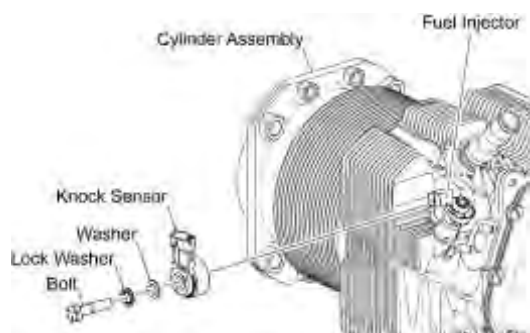
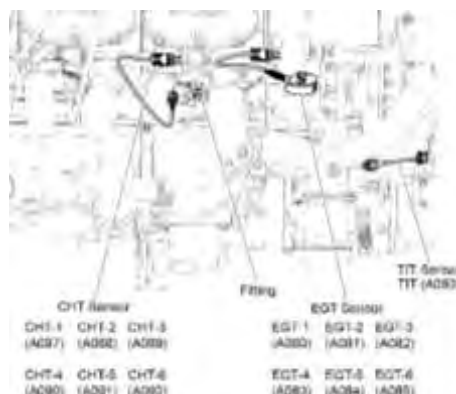

Figure 16
Figure 17
- E. Disconnect and remove the Knock Sensor (Figure 16) and Cylinder Head Temperature Sensor (Figure 17) from the engine cylinder. Refer to the "Sensor Replacement Procedures" in Chapter 72-70.